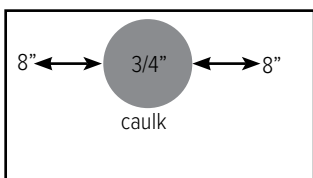

Figure 2.3.1
2.3.1 Apply caulk on corner reveals as shown in Figure 2.3.1. Double sided tape can be placed sporadically across the reveal.